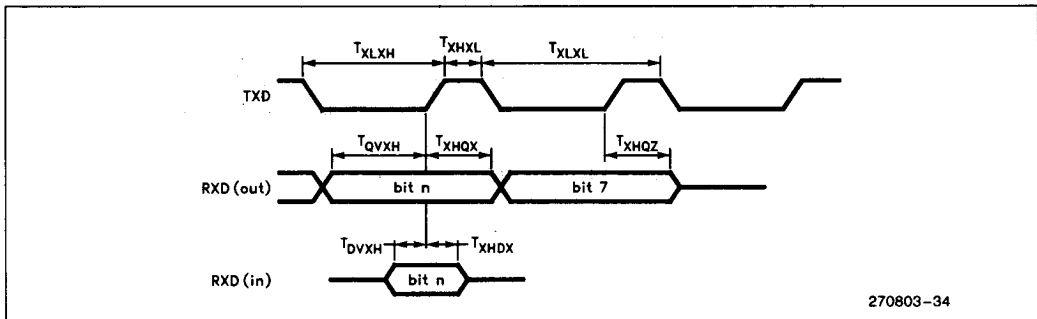

Figure 15. Serial Port Mode 0 Waveform
1. See Figure 15 for waveforms.